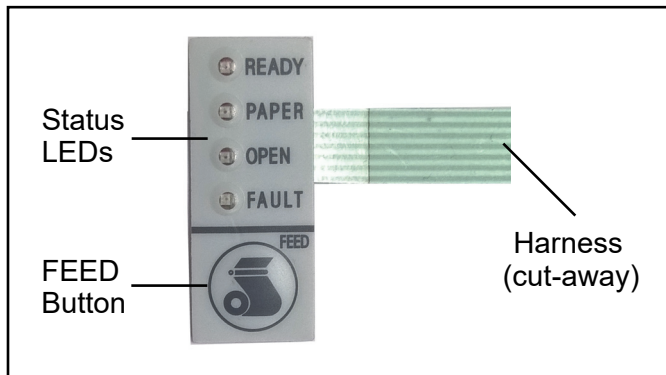

Figure 1 Membrane, Keypad for GEN5™ Printer (P/N #500-00005-100)
**Usage:** Featured on the JCM Global® GEN5 Printer, the Membrane Keypad (Figure 1) contains the Status LEDs and Feed Button. The Status LEDs provide a visual indication of various conditions of the GEN5 Printer, including: